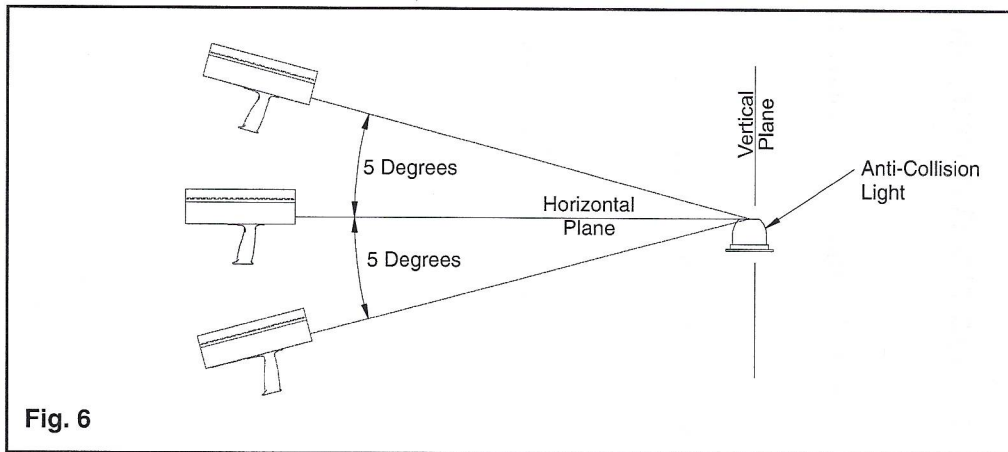

Fig. 6
3. **LOCATION OF WAND.** The tip of the wand should be located within  $\pm 1.0$  inch of the flash tube's vertical plane (Fig. 6). The wand should also be placed to the side to assure that the wand does not block light from reaching the sensor (Fig. 5). With the wand tip in place, apply appropriate directional pressure to the wand to align the instrument with the strobe light. Pull and hold the trigger to activate the instrument.
5. **ACQUIRING THE STROBE LIGHT.** Turn Strobe on. **DO NOT LOOK DIRECTLY AT THE STROBE.** In order to obtain the correct reading, the sensor must be aimed directly at the strobe within  $\pm 5^\circ$  of the strobe's horizontal plane (Fig. 6). Once the instrument begins displaying readings, adjust the aim slightly until a maximum reading is obtained. **BE SURE THE WAND IS NOT OBSCURING THE LIGHT.**